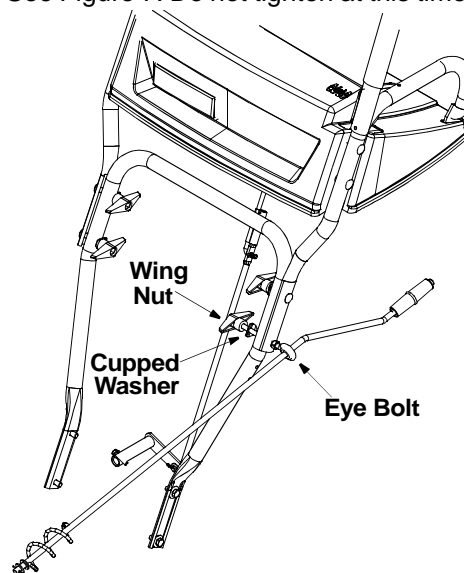

Figure 7
- Insert the eyebolt through the lower hole on the left side of handle. Secure with cupped washer (cupped side against the handle panel) and wing nut. See Figure 7. Do not tighten at this time.